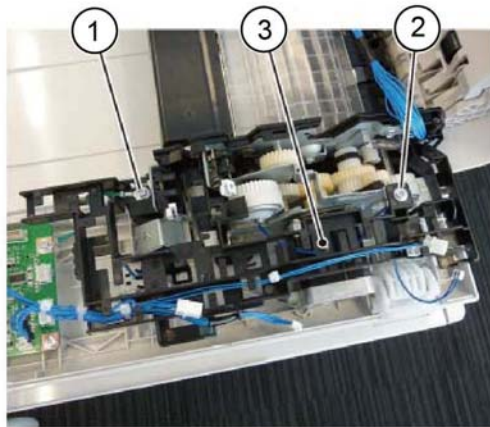

Figure 7 Harness guide removal
10. Remove the harness guide and wire harness, **Figure 7**:
- a. Disconnect the ground wire (1).
- b. Remove the screw (2).
- c. Remove the harness guide and wire harness (3).